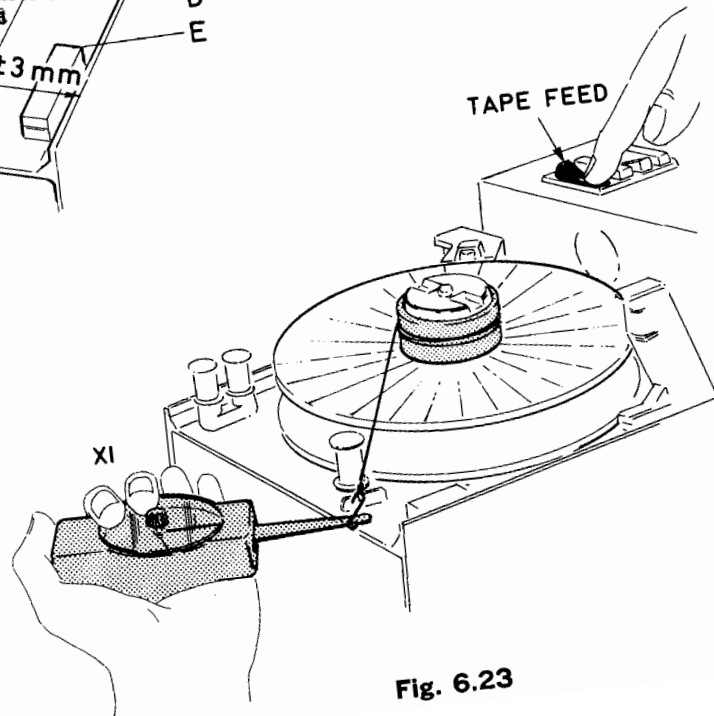

Fig. 6.23
- Fig 6.23
1. Check as shown in Fig 6.23 that the pulling force which the winding motor exerts on the takeup flange is not less than 950 gf.